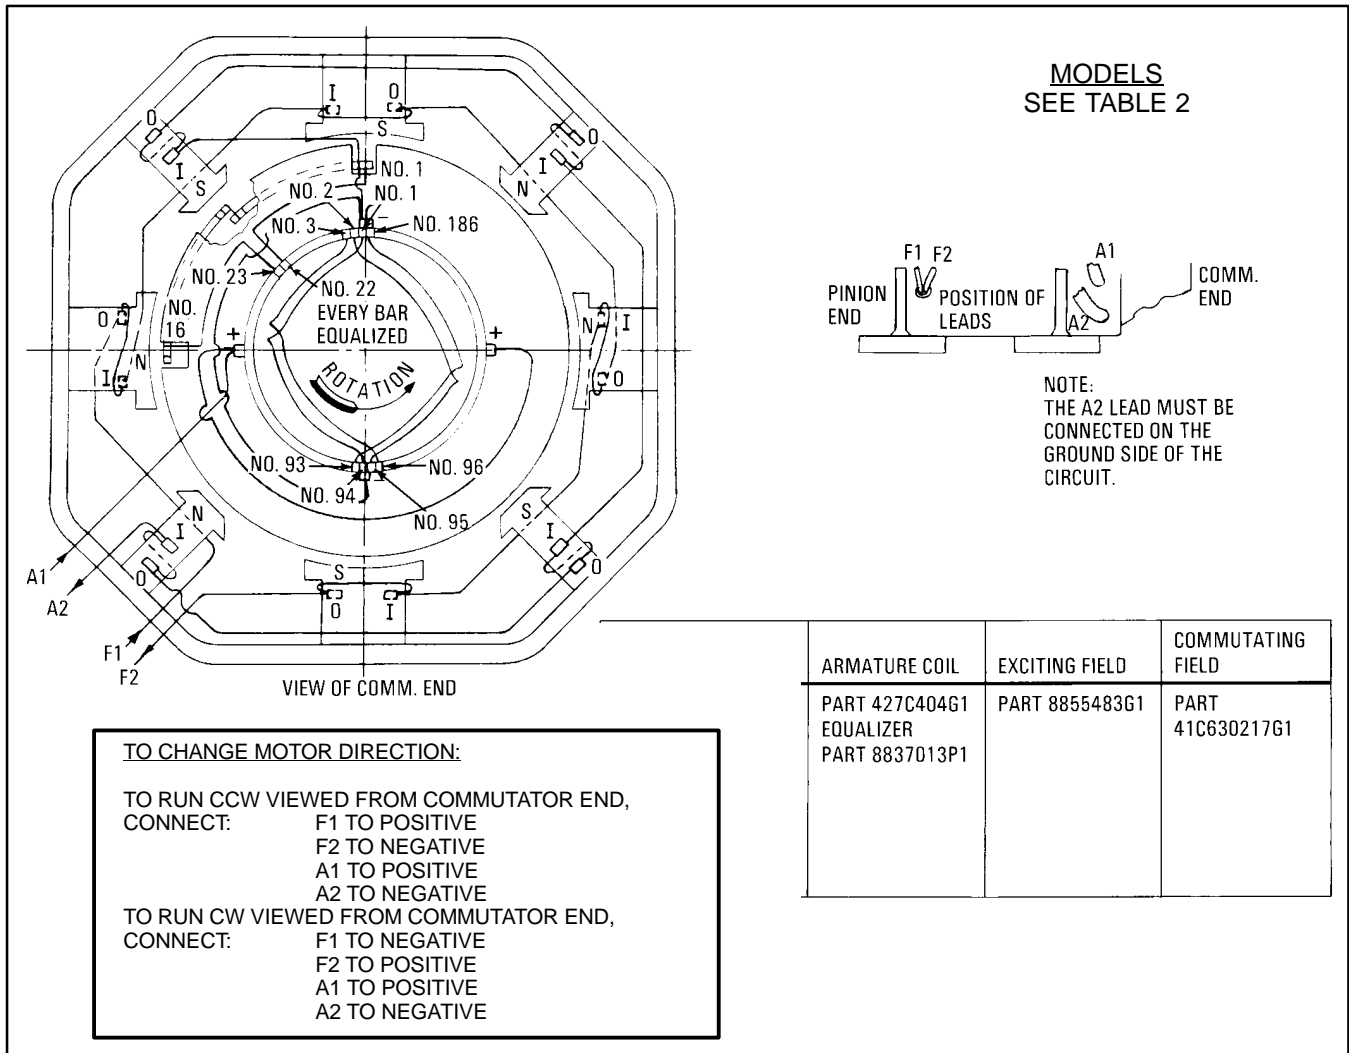

FIG. 21. CONNECTION DIAGRAM (493A210 CHG. 4). E-39092B.
5. See Figs. 21 thru 24 and measure and record commutating and exciting-coil resistance. Refer to Table 2 to determine the correct connection diagram for the machine being repaired.